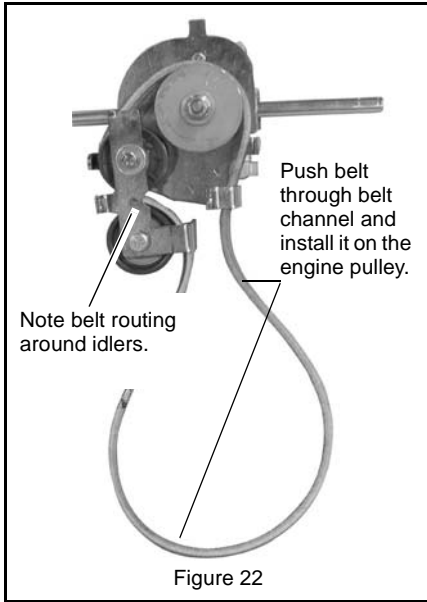

Figure 22
1. Install the new belt on the transmission input pulley and idlers, route it through the belt channel, and then install the belt on the engine pulley. See Figure 22.